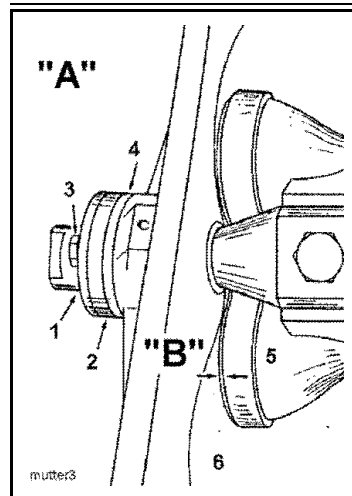
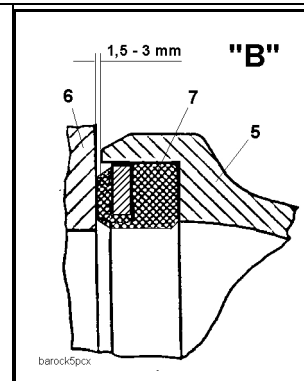

Fig. 325
Fig. 326
A	See detailed view (Fig. 325)
B	See detailed view (Fig. 326)
No air gap may be visible between the bearing bushing (4), the locking wheel (2) and the adjusting nut (1) (Fig. 325), even during operation.
There must be a measurable distance of distance of 1.5 to 3.0 mm between the swivel head (rock) (5) and housing lining (6) while the kidney seal (7) is in contact with the housing lining (6) (Fig. 326).
Caption for (Fig. 325) and (Fig. 326)
- Remove safety screw (3) (Fig. 325) together with disc.
- Set distance "B" = 1.5 to 3.0 mm using the adjusting nut (1).
- Align the bore in the collar of the adjusting nut with the nearest threaded bore in the locking disc (2) (rotate the nut forward or backward).
- Attach safety screw (3) with disc.